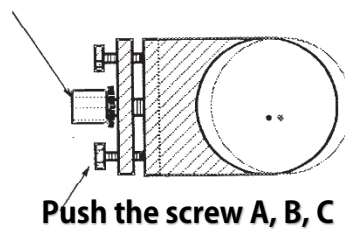

Fig. C-8
④ Insert the collimating eyepiece and tilt the secondary mirror until the dot on the surface is over the center of the cross hairs. In the illustration Fig. C-7, the center of the collimating eyepiece matched the center of the crosshair, but the secondary mirror dot is located low and to the left. The secondary mirror must now be tilted toward the primary mirror mark (+) and the (+) must be moved upwards. Slightly loosen the push screw A, B, C after backing off the lock nuts. Loosen the large knurled nut in the center and tighten the push screw A, B and C. Refer to the Figs. C-8 and C-9.